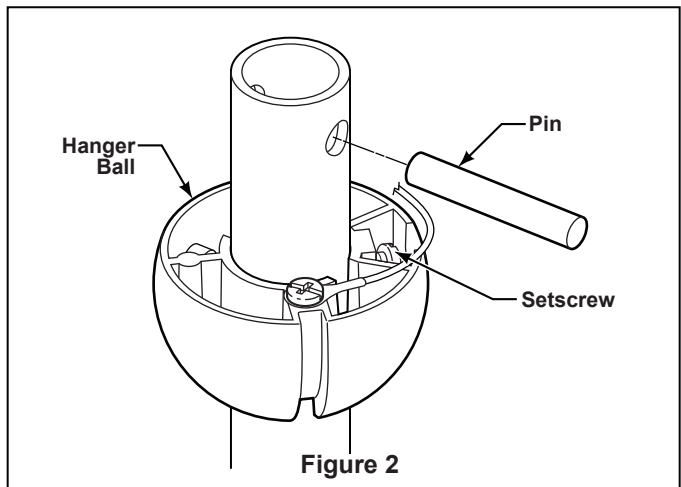

Figure 2
2. Remove the Hanger Ball by loosening the setscrew in the Hanger Ball until the ball falls freely down the Downrod. (Figure 2) Remove the Pin from the Downrod, then remove the Hanger Ball. Retain the Pin and Hanger Ball for reinstallation in Step 6.